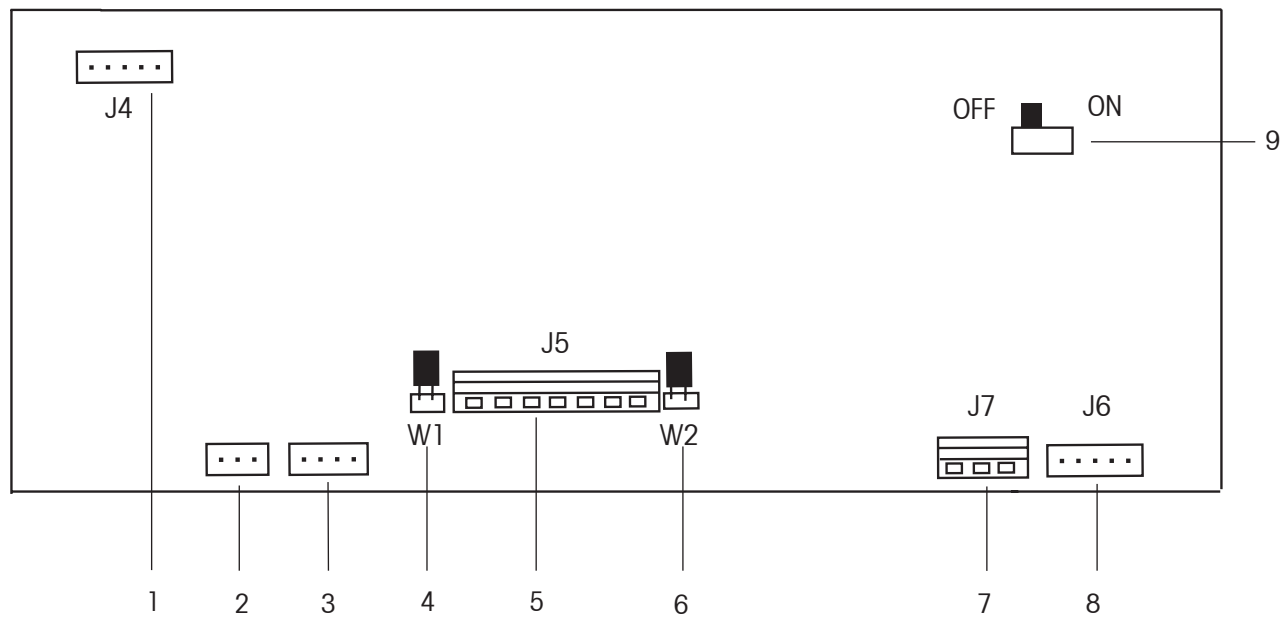

Figure 1-3. Main PC Board.
Pass the load cell cable through the strain relief (Figure 1-1, item 9 or Figure 1-2, item 10) and attach it to terminal block J5 (Figure 1-3, item 5).